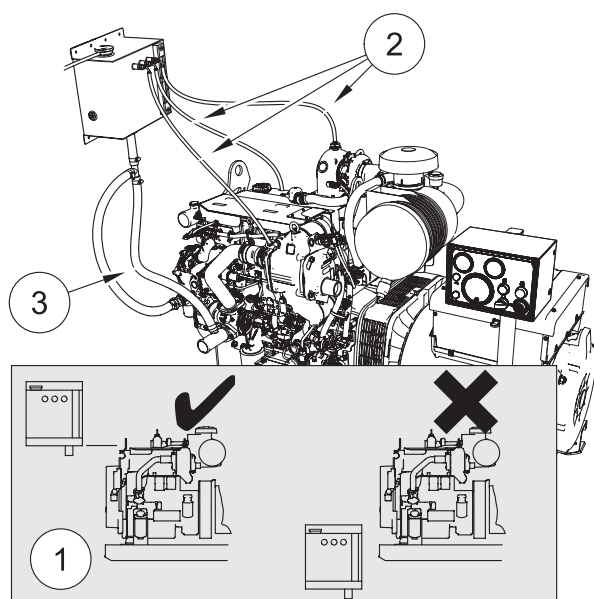
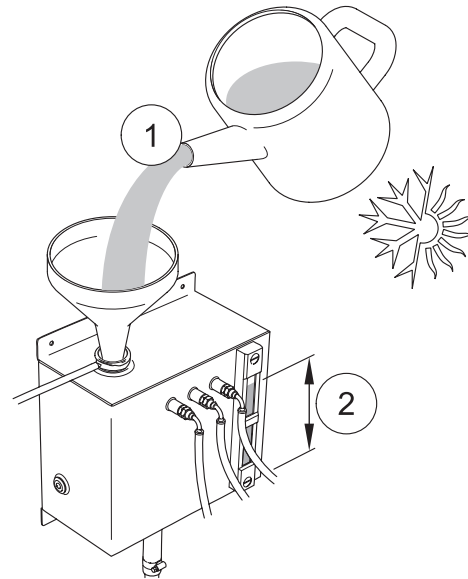

Figure 39
Figure 40
- 1 Mount the remote expansion tank in a position where the bottom of the unit is as shown in figure 39.
- 2 Connect the new bleed hoses (2) to the tank and the fittings on the engine.
- 3 Connect the main inlet hose to the engine (3).
- 4 Fill the remote expansion tank with 50% antifreeze solution as in figure 40 (1), to the maximum position on the sight glass (2). (Refer to the Customer Information Pack on the Perkins Marine website. for the correct coolant specification).